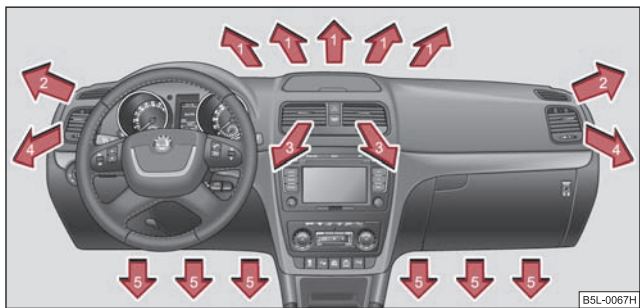
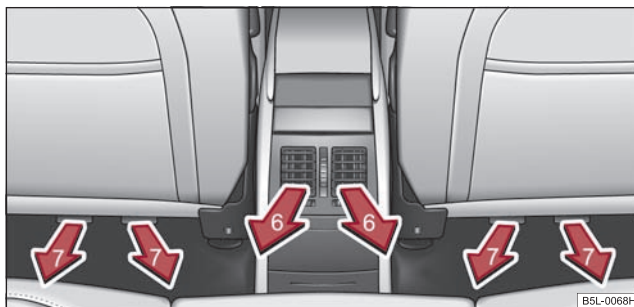

Fig. 99 Air vents at the front
Fig. 100 Air vents at the rear
- Turn the horizontal wheel (to the right) ⇒ fig. 99.
- Turn the vertical wheel (between the end positions) ⇒ fig. 100.
The air outlet vents **3**, **4** ⇒ page 96, fig. 99 and **6** ⇒ page 96, fig. 100 can be closed and opened individually.
We recommend that you leave the air outlet vents ③ ⇒ page 96, fig. 99 in the opened position. ■